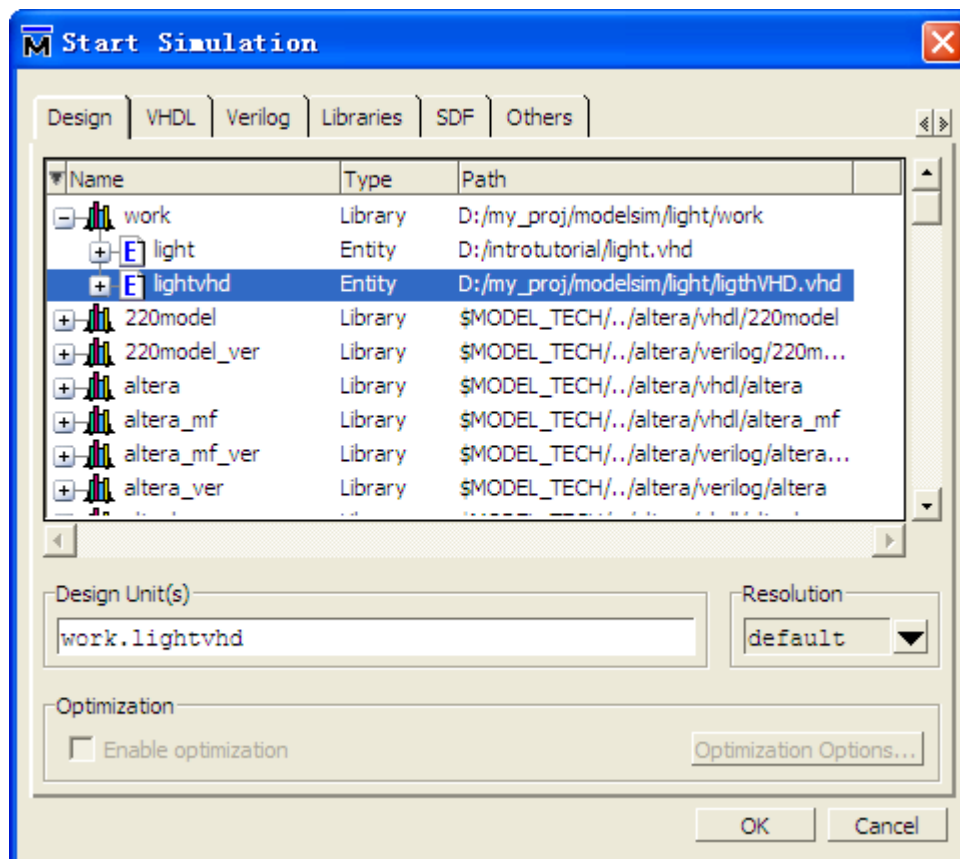

Figure 38. Choose Simulation Object
9. Load the Design and Click Menu **Simulate > Start Simulate**, then the interface shown in Figure 38 will appear.
b. Click on the **+** icon to expand the work library (Figure 38).